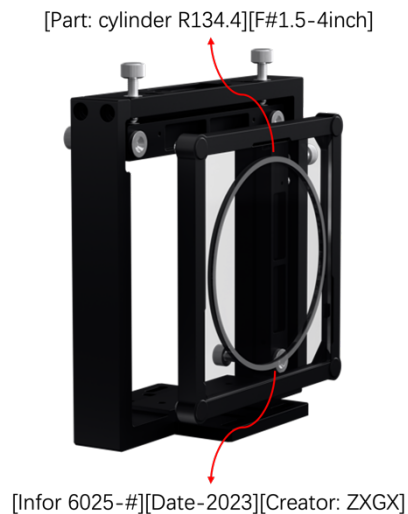

Figure 4: Installation diagram of cylinder CGH
3. Mount the cylinder nulls on the six-degree frame though four magnetic balls, when the cylinder CGH is mounted with the right direction, the direction of etched text is shown as Figure 4: